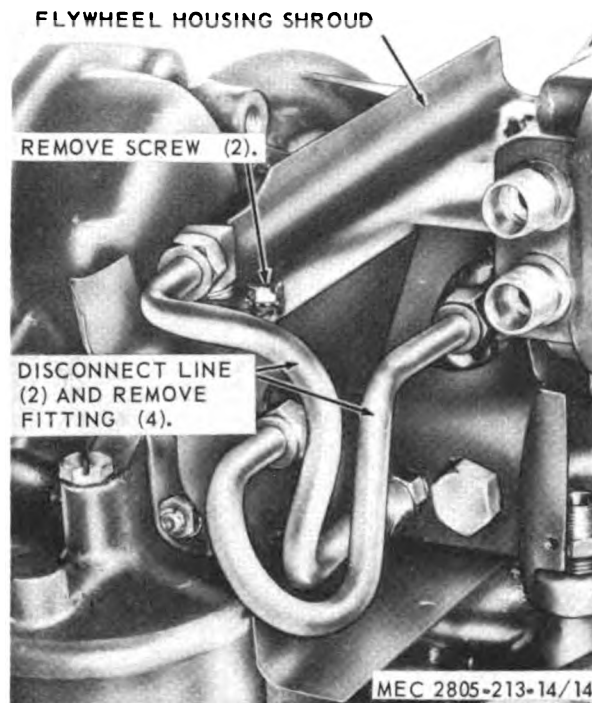

Figure 3-34. Flywheel housing shroud, removal and installation.
(1) Remove the left front, left rear, right front, and right rear shrouds (para 3-38).
(2) Remove the intake manifold and elbows (para 3-20).
(3) Refer to figure 3-34 and remove the flywheel housing shroud.
(1) Refer to figure 3-34 and install the flywheel housing shroud.
(2) Install the intake manifold and elbows (para 3-20).
(3) Install the left front, left rear, right front, and right rear shrouds (para 3-38).